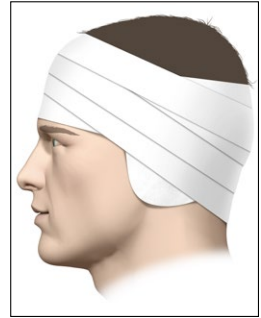

Fig.26: Pressure dressing
2. Apply a pressure dressing for at least 24 hours (*Fig.26*).